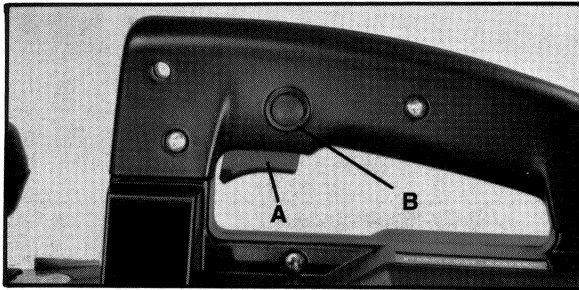

Fig. 1
1. Squeeze switch trigger (A) Fig. 1, to start motor. Release switch trigger to stop motor.
2. A lock button (B) Fig. 1, is provided to lock the switch in the ON position. To lock the switch ON, squeeze the trigger as far as it will go and push in the lock button and release trigger.